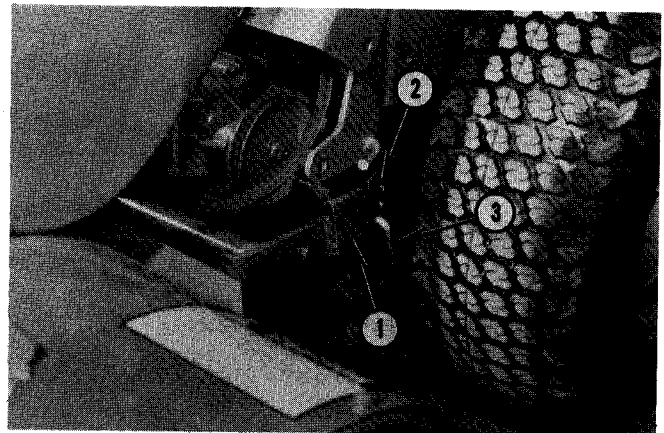

Fig. 6 - LOWER TILLER HITCH FRAME
4. Back tractor by hand until lower pin holes are lined up, install short "L" pins and secure with hairpins, Fig. 6. Never use middle or upper holes as lower hitch frame will interfere with drive pulley in transport position.